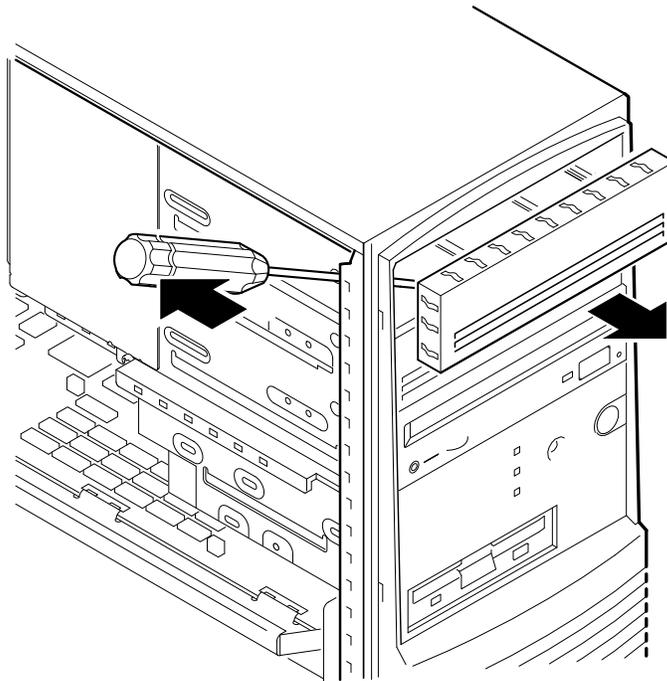

Figure 4-8. Removing Plastic Filler Panel from the Upper Drive Bay
2. Carefully remove the plastic filler panel (Figure 4-8). If no drive is present in the slot that is to be used, you can remove the panel by pushing it out from the inside with a Phillips screwdriver inserted through one of the screw holes in the side of the drive bay.